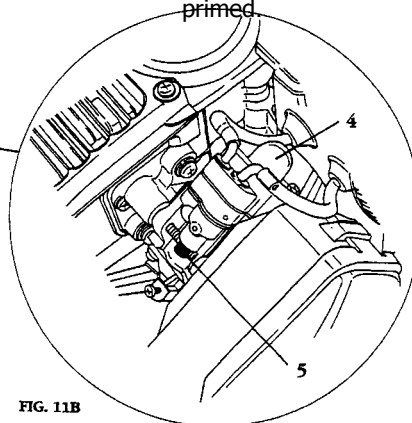

FIG. 11B
- d. (FIG. 11B) Priming bulb (4), when pressed, delivers fuel from the tank to the carburetor. Use priming bulb for cold starts or if engine ever runs completely out of fuel.
- e. (FIG. 11B) Fuel injection button (5) forces fuel from the carburetor to the combustion chamber for cold starts. Used after carburetor is primed.